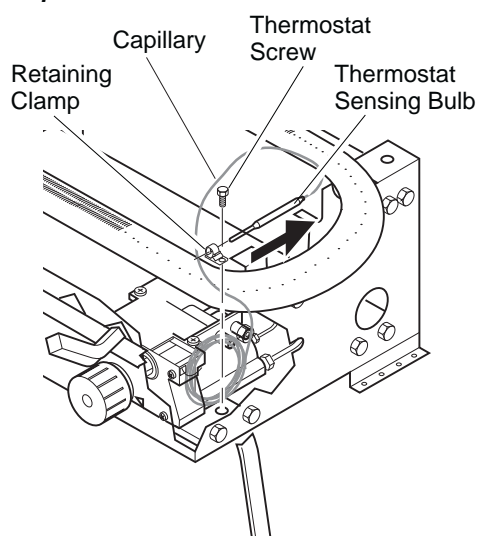

Figure 29 - Removing Thermostat Sensing Bulb
2. With 1/4" hex driver or socket, loosen the thermostat screw. Carefully slide the thermostat sensing bulb out of the retaining clamp (see Figure 29).